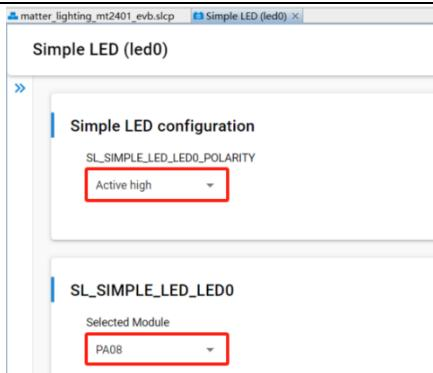
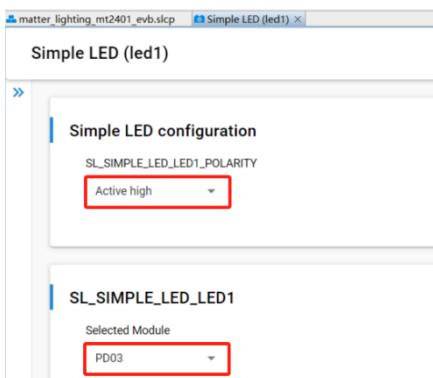

Figure 5.11
Figure 5.12
- 1) Click "Configure" to configure LED, as shown in figure 5.11 and figure 5.12.